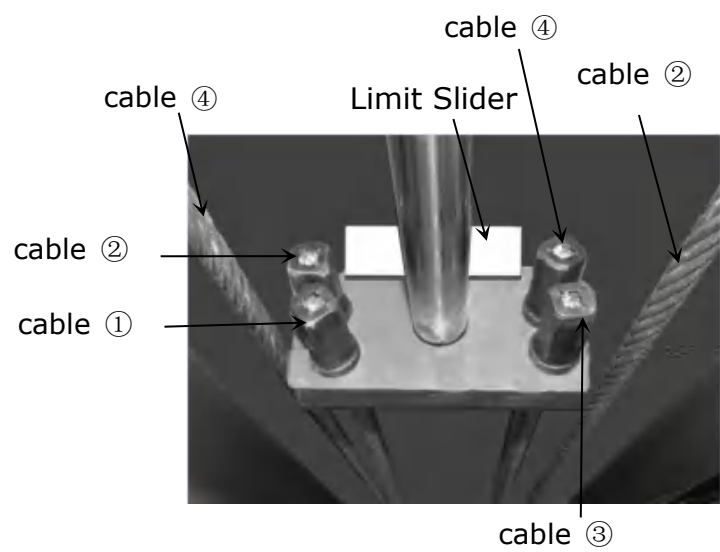
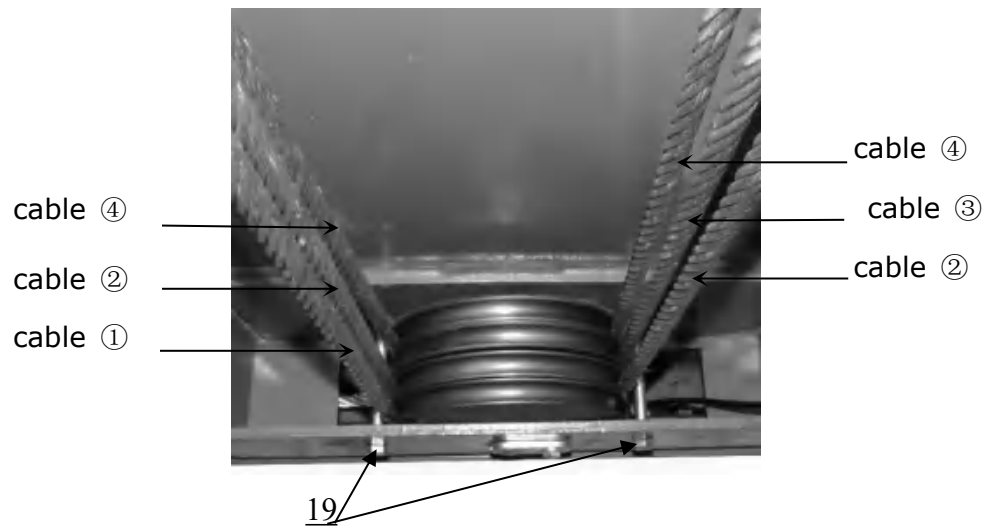
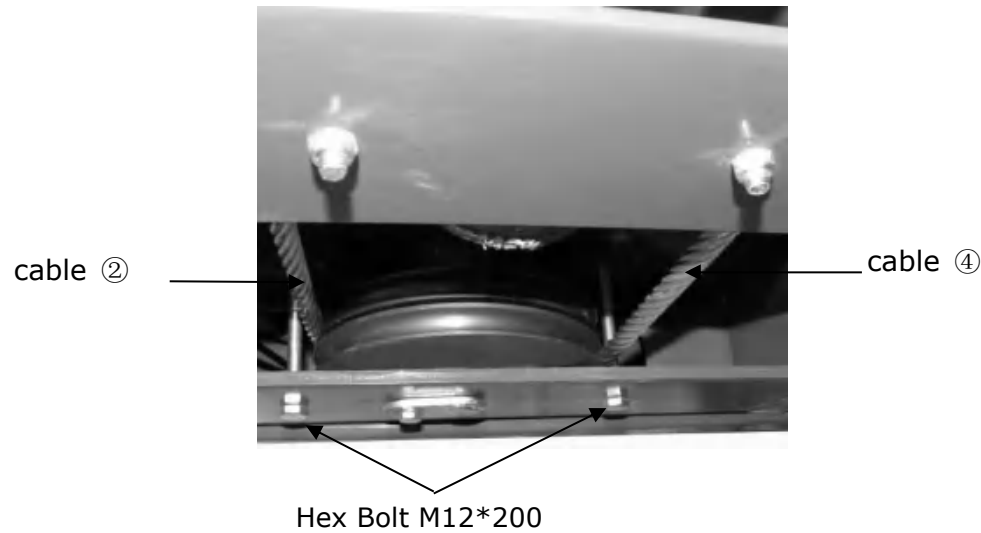

Fig.26
Fig.27
Fig.28
3. Illustration for platform cables (See Fig. 26, Fig.27, Fig.28)